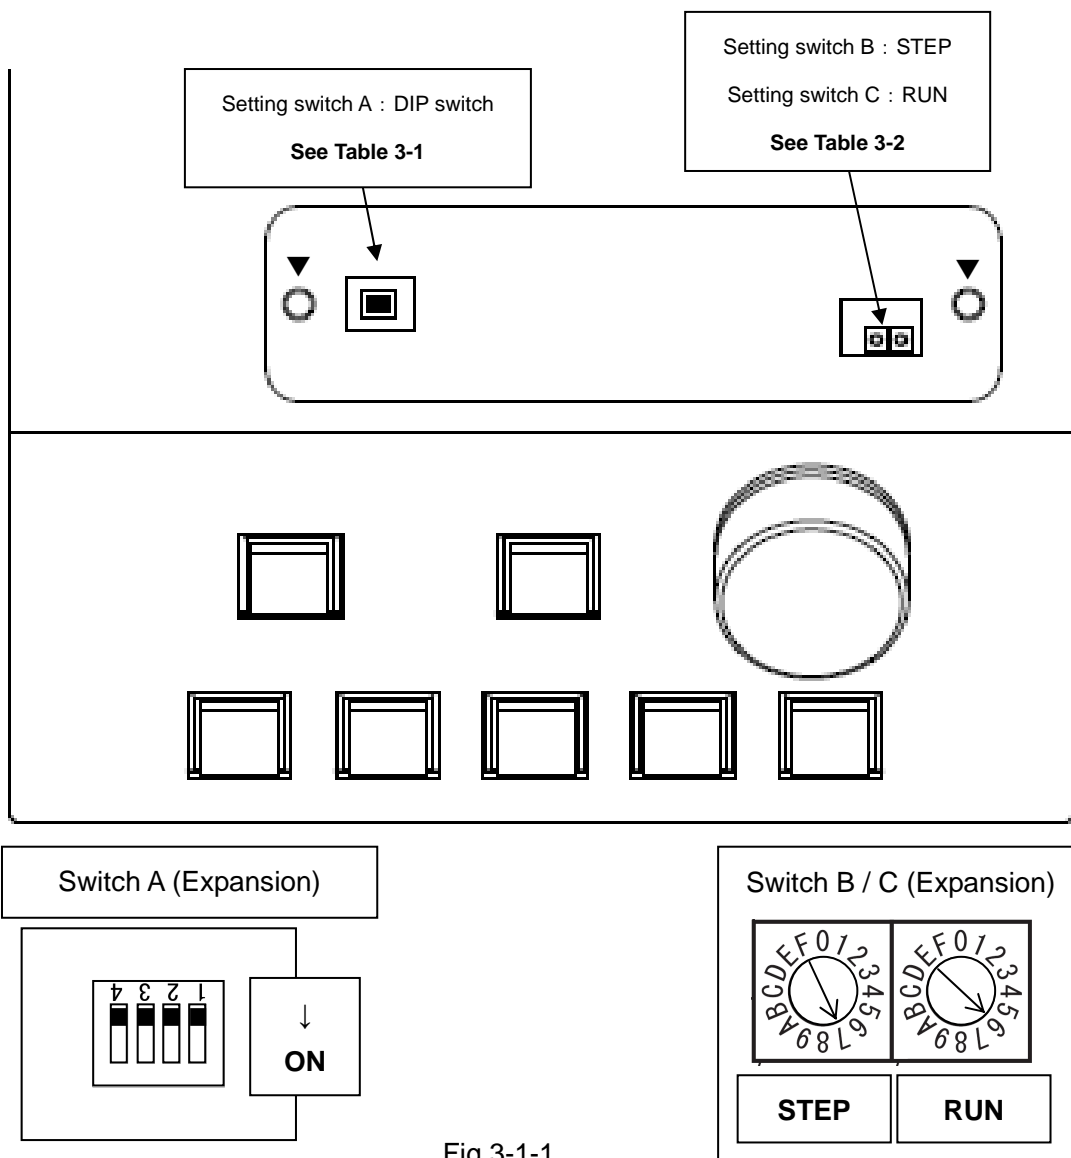

Fig.3-1-1
The switches can be accessed as shown in Fig. 3-1-1 by removing the panel's (4) screws at bottom of the controller (marked as ▼).